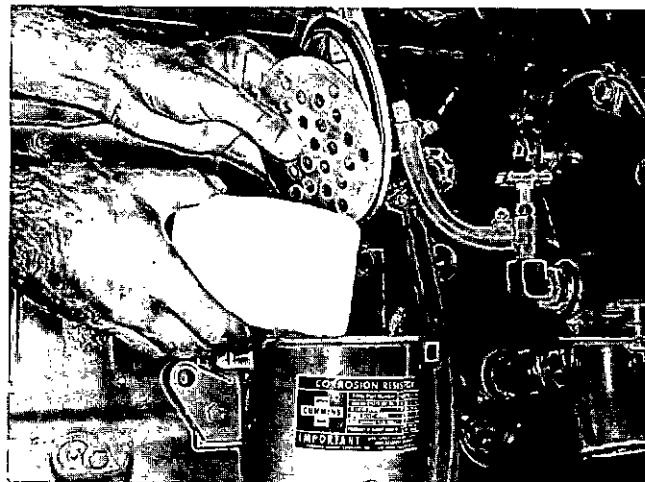

Fig. 5-25, N11901. Changing corrosion resistor element
2. Remove cover cap screws and cover, Fig. 5-25.
If Cummins Corrosion Resistor is used, change element, Fig. 5-25, and run engine four to six hours; then, check coolant again; in extreme cases it may be necessary to change element a second time. However, the latter condition may be due to larger coolant system than corrosion resistor was designed to treat; note reference on resistor label.